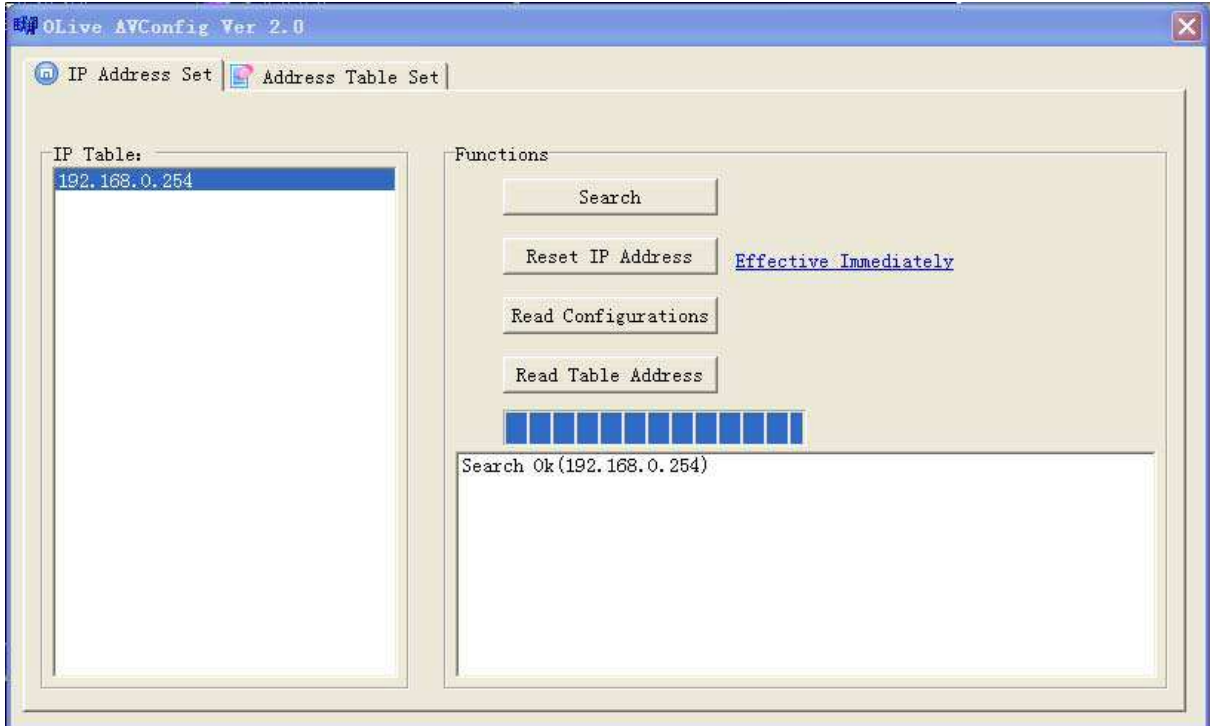

Figure 2
- ✧ [Search]: Search for all the online equipments in the network as Figure 2 shows (Note that IP addresses of DT-IPC and PC can't be the same, or DT-IPC can't be searched, but they must be in a same network segment).